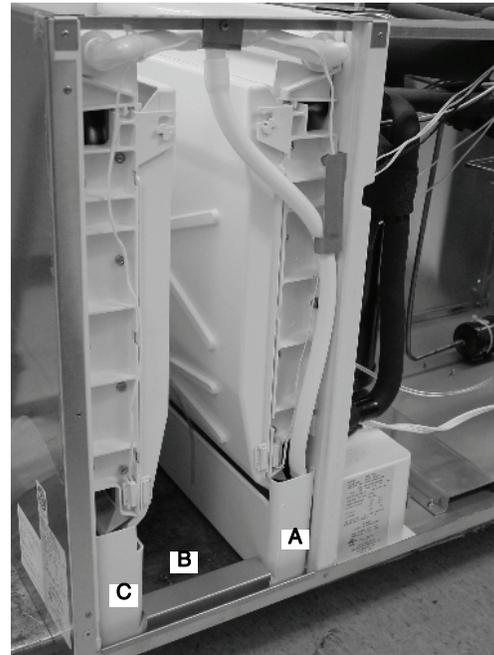

Figure 9.
5. Drain the evaporator water pans (A)(C) by removing the connection tube behind the metal evaporator support (B) (FIGURE 9).